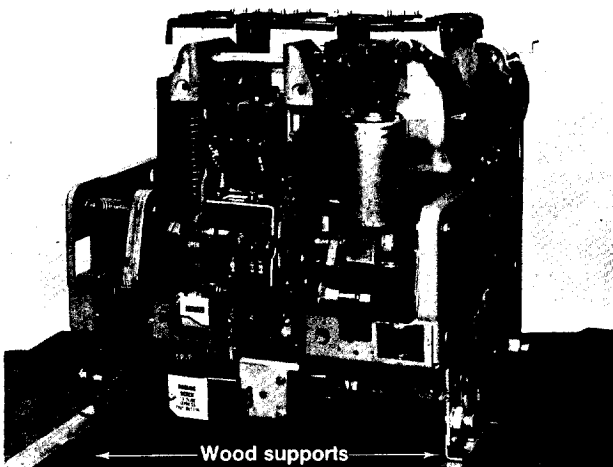

FIG. 1
1. Prior to removal of the escutcheon, support the breaker by placing a 2" × 4" × 6" piece of wood under each of the two front rail stud supports. See figure 1. Do not rest the breaker on an overcurrent programmer unit at any time.